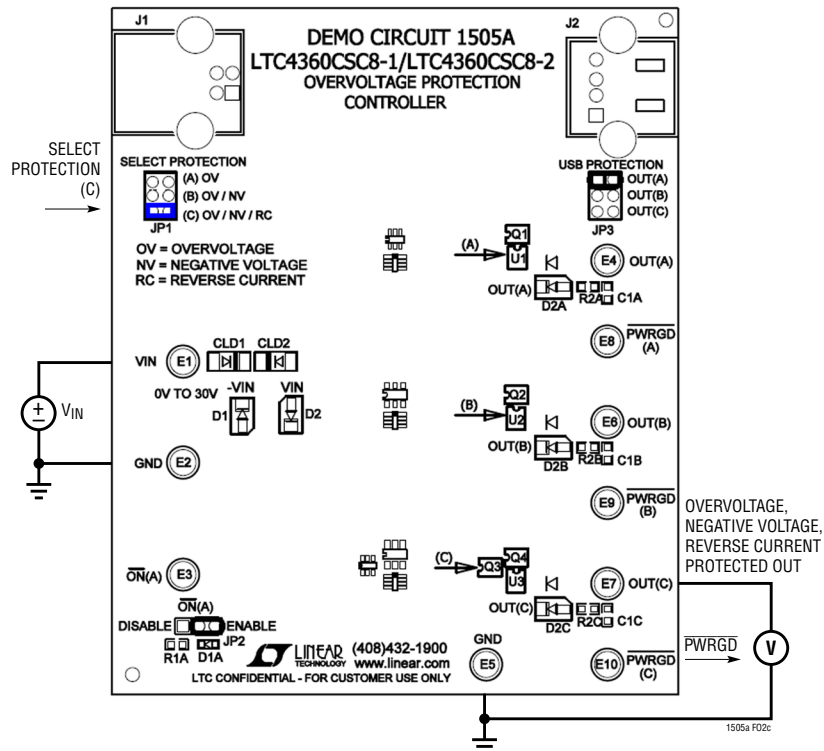
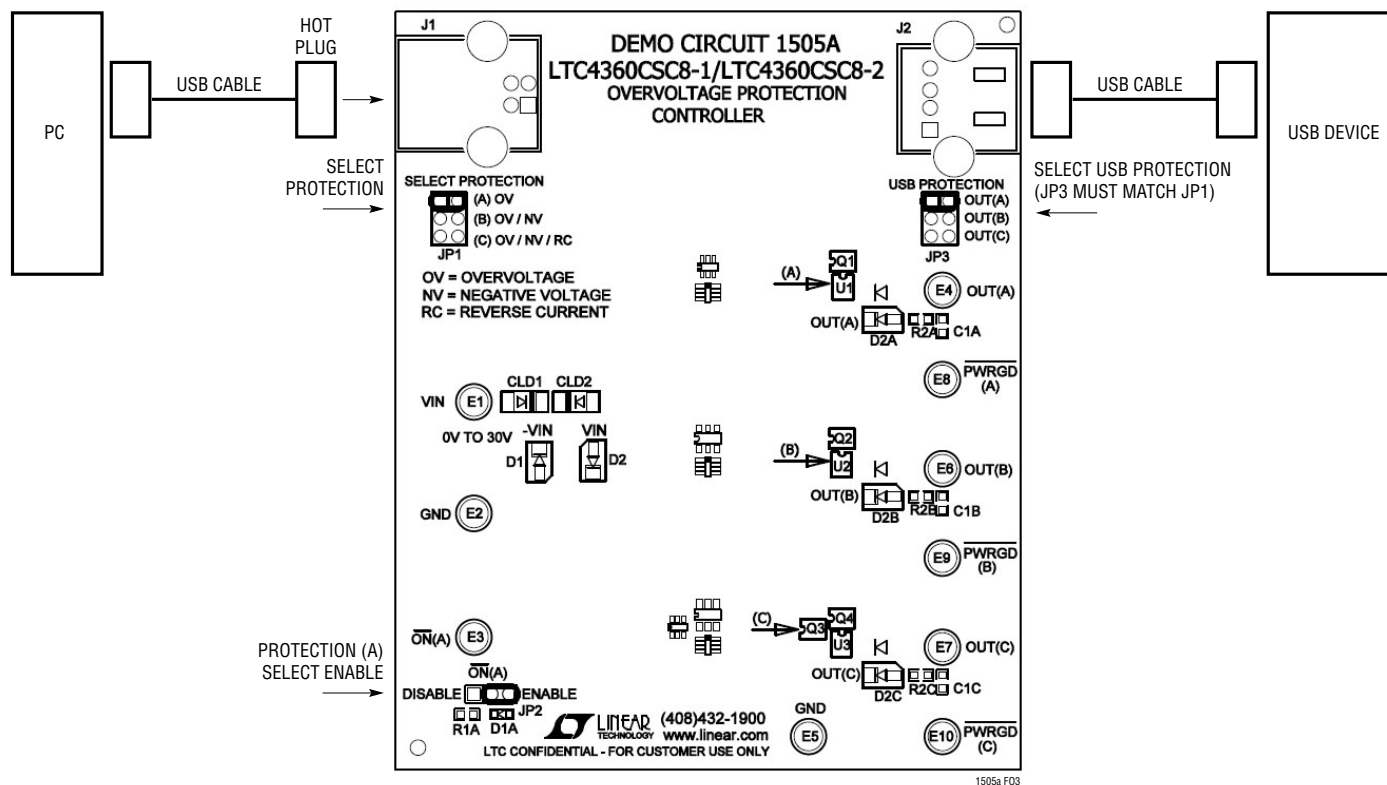

Figure 2c. DC1505A Protection (C) Setup for Overvoltage, Negative Voltage, and Reverse Current
Figure 3. DC1505A USB Protection Setup
Demonstration circuit description 1505A is easy to set up to evaluate the performance of the LTC4360. Refer to Figure 2 and Figure 3 for proper measurement equipment setup and follow the procedure below.
- c. For overvoltage, negative voltage, and reverse current protection select (C) OV/NV/RC, connect to OUT(C). Figure 2c.
3. Select ENABLE at JP2 for protection (A) to enable.
4. For USB protection, connect a USB cable from J2 to the USB device (Figure 3). Select the protection type at JP1 and match JP3 to JP1. Connect a second USB cable from a computer to J1.